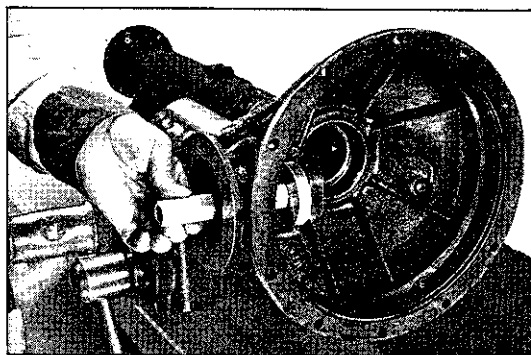

FIG. 288—PINION PILOT BEARING INSTALLER
- a. Install pilot bearing retainer and drive the bearing into place with Tool No. W-207, Fig. 288.